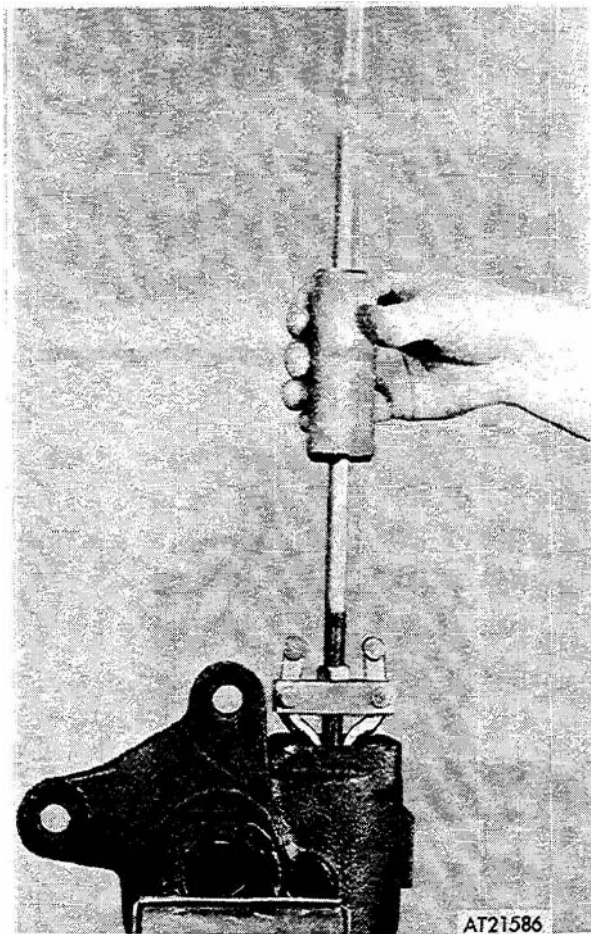

Figure 3-213. Removing ball cup from housing.
(4) Remove ball cup (5, fig 3-212), retainers and 9), and assembled shaft (7) and worm gear (8) from housing (20). Using a suitable puller, remove ball cup (10) from housing (fig 3-213). Press shaft (7, fig 3-212) from worm gear (3) as shown in 3-214.